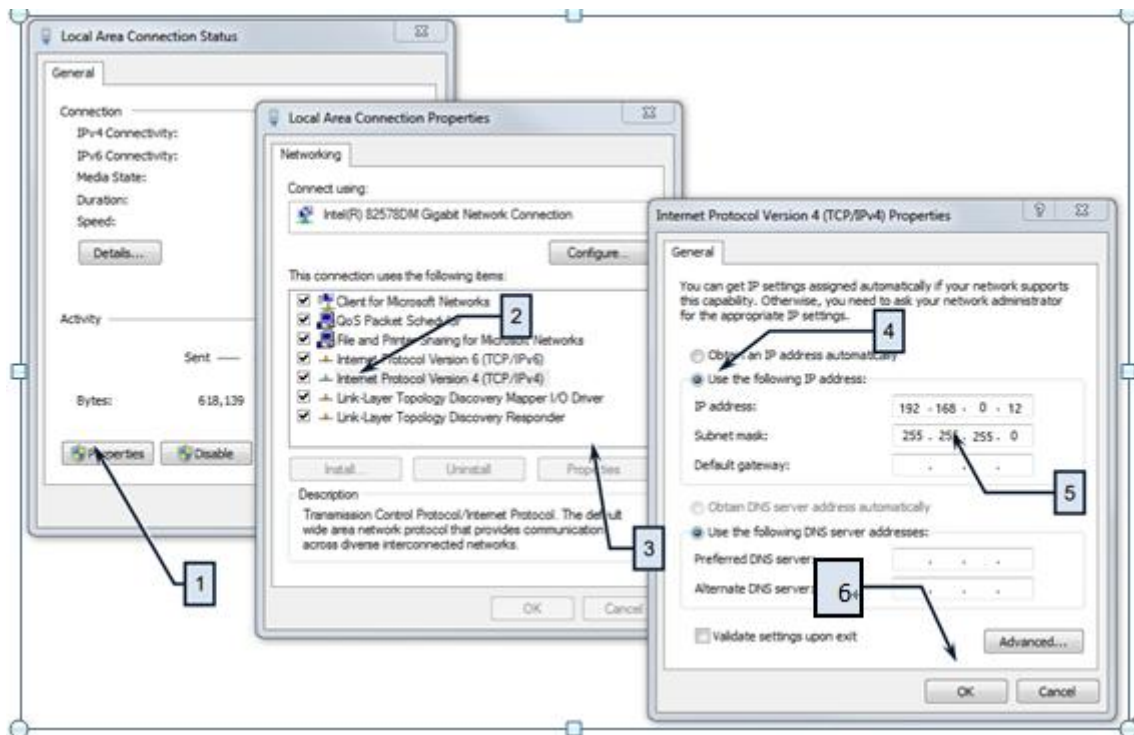

Figure 7 IP Settings on PC Side
- f) Click “OK” to confirm the settings and exit. See Figure 7 for details.